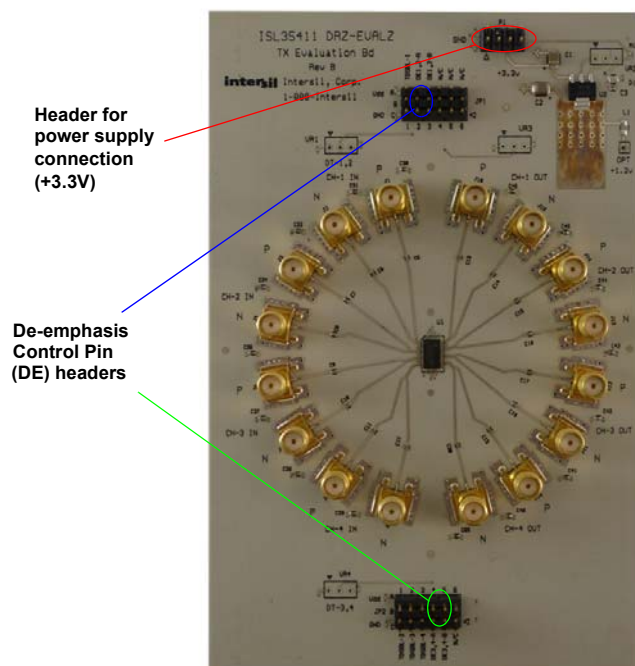
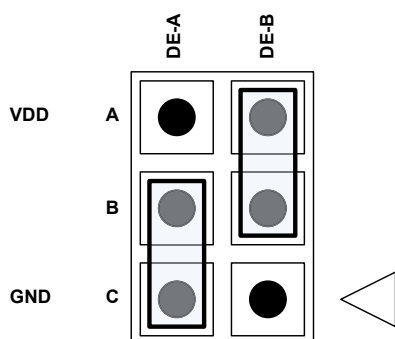

FIGURE 3. ISL35411DRZ-EVALZ EVALUATION BOARD
FIGURE 4. JUMPER CONFIGURATION FOR 3dB OUTPUT DE-EMPHASIS
This section describes how to setup your ISL35411DRZ-EVALZ evaluation board: making sure proper power is applied, connecting to the high-speed RF inputs and outputs and adjusting the output de-emphasis level for each channel. The board is shown in Figure 3.
The output driver of each channel on the ISL35411 is capable of providing seven different levels (0 to 6) of adjustable output de-emphasis. The available output de-emphasis levels range from 0dB (DE level = 0) to 4dB (DE level = 6). The de-emphasis levels of Channels 1 and 2 are controlled simultaneously by the de-emphasis control pin headers (DE) located at JP1 on the north-side of the board and highlighted in blue in Figure 3. The de-emphasis levels of Channels 3 and 4 are controlled simultaneously by the de-emphasis control pin headers (DE) located at JP2 on the south-side of the board and highlighted in green in Figure 3. Output de-emphasis levels are set by positioning jumpers on the appropriate header as illustrated in Figure 4. For both sets of headers, DE-A and DE-B can each be set to one of three values (VDD, GND, or Floating). Table 1 gives the jumper positions required to achieve various de-emphasis levels. As an example, Figure 4 depicts the jumper positions that set the output de-emphasis level to 3dB (DE-A = GND and DE-B = VDD).